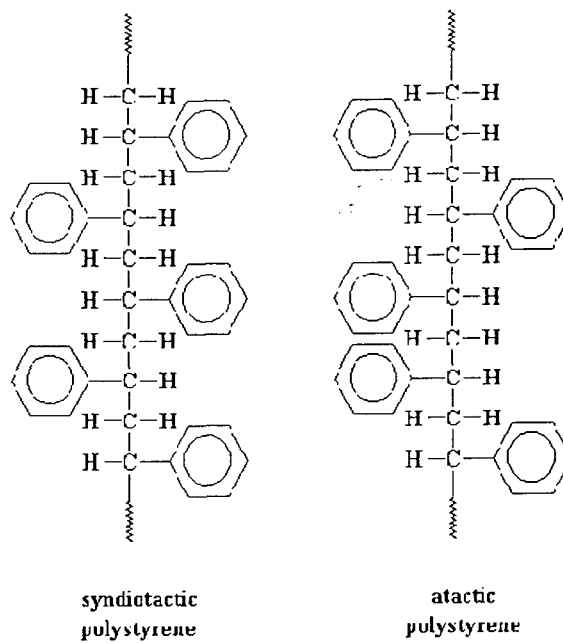

Figure 2
3. [a] Figure 2 shows syndiotactic and atactic structures of polystyrene (PS). Discuss the differences between the two configurations with respect to ability to crystallise and their properties.